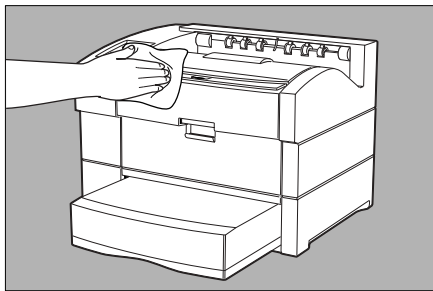

Fig. 6.4 Exterior Cleaning
2. Clean the printer's exterior using a clean, lint-free cloth dampened with water (fig. 6.4).